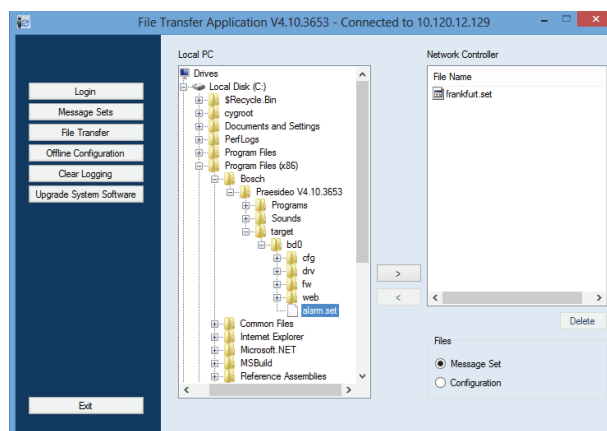

figure 45.10: Transferring a message set
- 1 In the *File Transfer* application, first log in and then click the *File Transfer* button. A screen similar to the one in figure 45.10 appears.